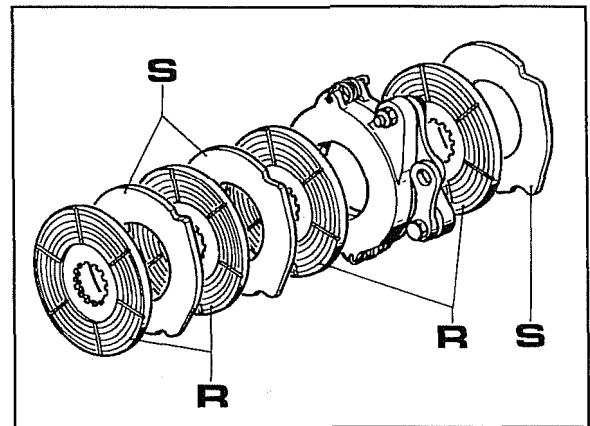

Fig. 23
- Fig.23 illustrates a brake disk pack ass'y installed on tractors with chassis number from C467494 onwards.